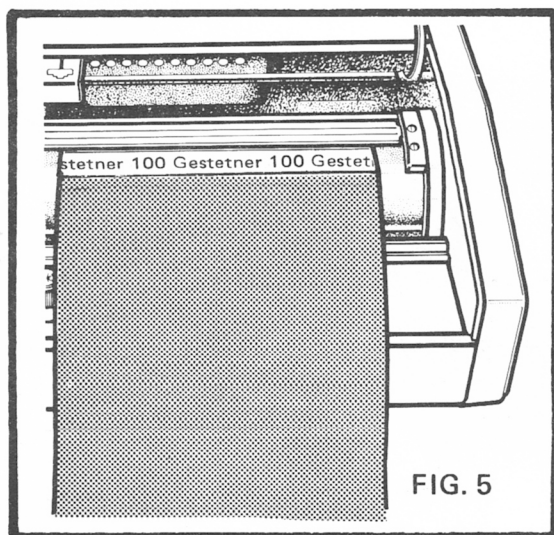

FIG. 5
- 1) Release the stencil clamp by pushing the sliding locks back. Insert about two inches of the heading of the stencil under the forward edge of the stencil clamp (Fig. 5).